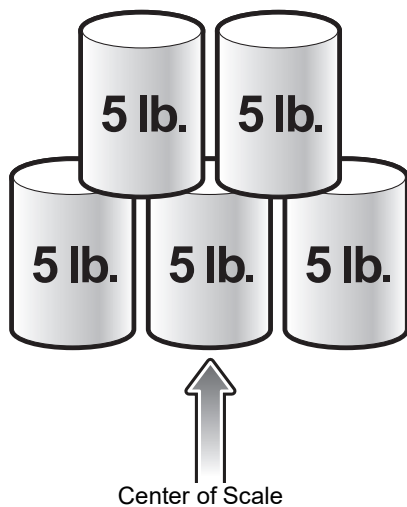

Figure 4-3 Weight Calibration Configuration for Pounds
- a. Place 25 lb weights on the scanner as shown in *Figure 4-3*; three 5 lb weights centered on the center of the scale, and two 5 lb weights centered on top.